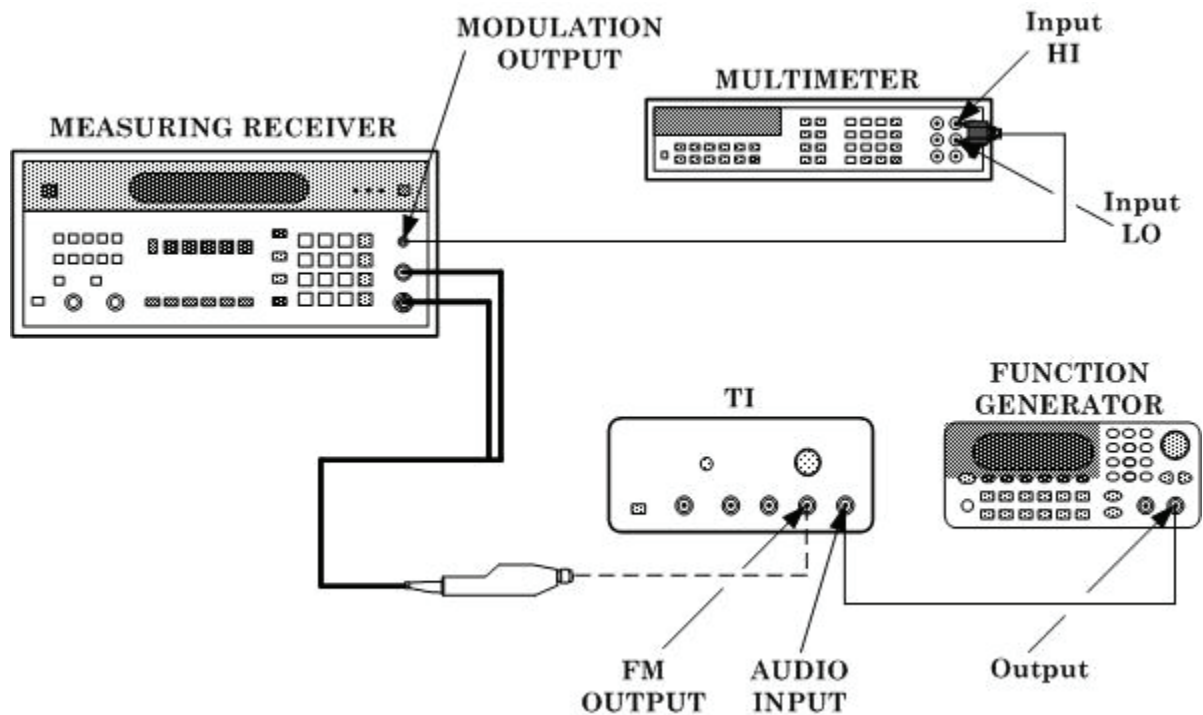

Figure 2. FM distortion - equipment setup.
- (1) Connect equipment as shown in figure 2.
- (2) Set TI **TEST MODE** switch to **FM**.
- (3) Set function generator controls for a 10 kHz, -18 dBm output.
- (4) Set measuring receiver to measure frequency in track tune mode.
- (5) Adjust TI **CARRIER FREQUENCY TUNE** until measuring receiver indicates  $400.000 \pm 0.010$  MHz.
- (6) Set measuring receiver controls to measure average FM with a 50 Hz high pass filter (low pass filters and **FM** de-emphasis off).
- (7) Adjust function generator amplitude for a 20 kHz indication on measuring receiver.